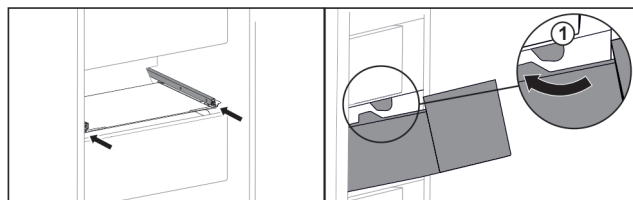

Fig. 113
- ▶ Guide drawer around the stoppers Fig. 113 (1).